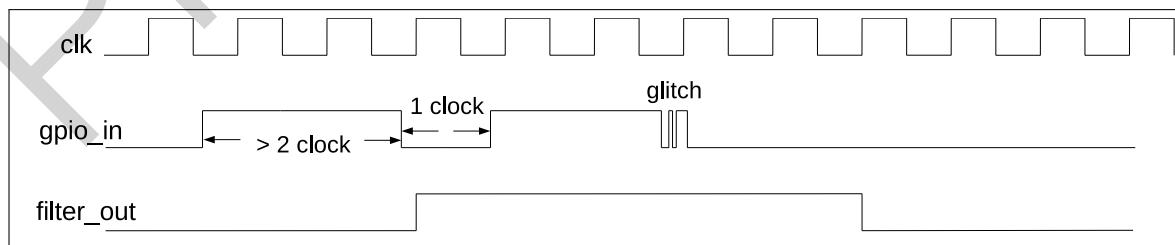

Figure 5-5. Filter Timing of GPIO Input Signals
- Optionally enable the filter for pin input signals by setting the register `IO_MUX_GPIO n _FILTER_EN`. Only the signals with a valid width of more than two clock cycles can be sampled, see Figure 5-5.